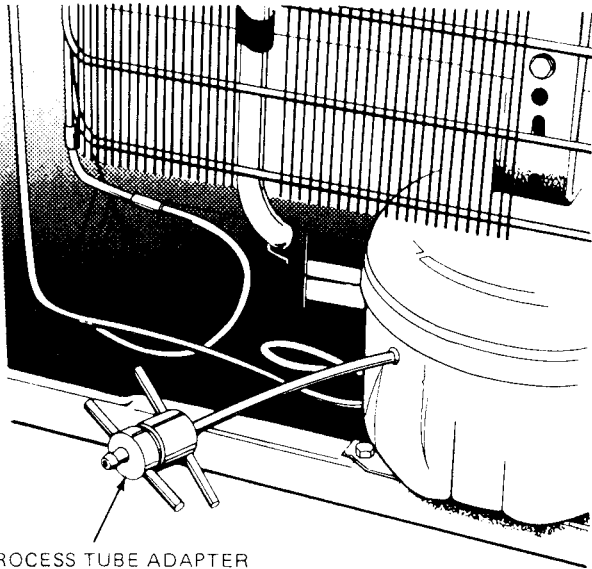

Fig. 12-7 Process-tube adapter. (Kelvinator)
5. Install a process-tube adapter kit. See Fig. 12-7. If the adapter is not available, slip a 1/4 in. flare nut over the copper tube and flare the tube.